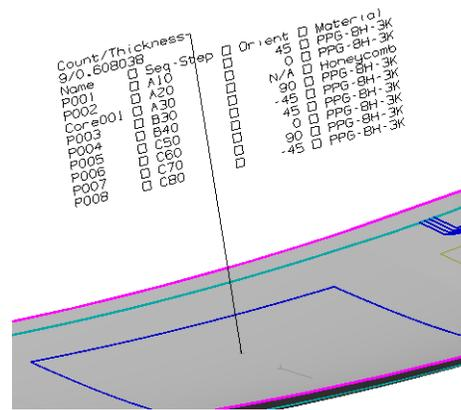

Figure 8–11
16. The Fibersim window re-activates. Mouse over the NX window again to update the note, as shown in Figure 8–11.